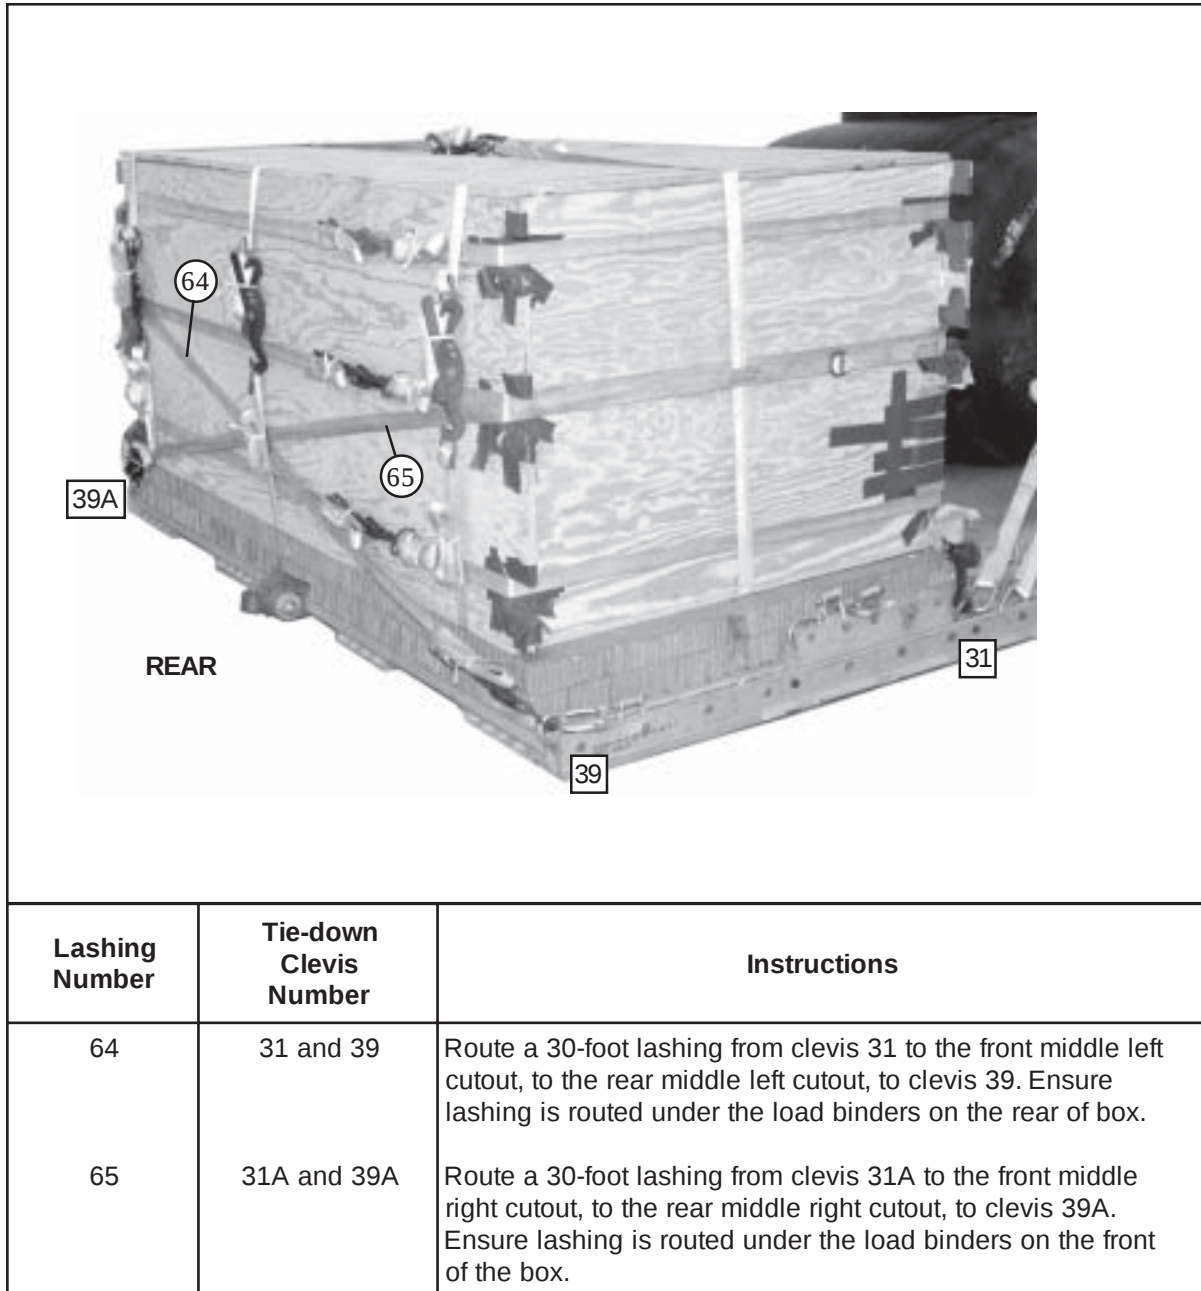

Figure 4-103. Lashings 64 and 65 Installed
b. Lash the rear equipment box to the platform as shown in Figures 4-103 through 4-105.